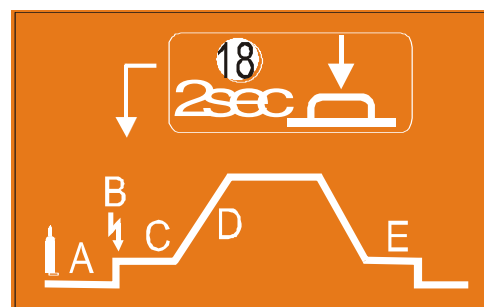

Fig. 3.8: Position of the special mode on the operator's panel
The orientation of the letters to the machine parameter settings is simplified by following the letters placed along the current cycle diagram printed next to the special mode on the panel. As shown in Fig. 3.8: The gas pre flow time (A), the ignition energy (B), the start current (C), the upslope time (D), and the crater fill current (E) easily recognisable by their position.